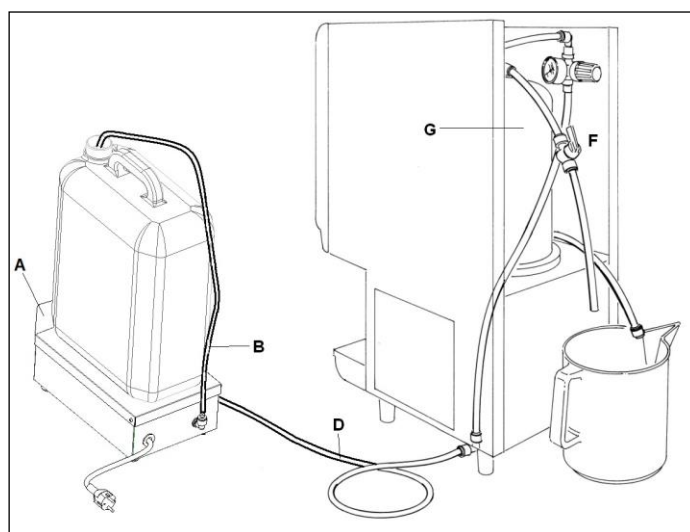

Fig. 7
- b) Rest the machine on a sturdy, flat surface making sure it is well ventilated by leaving a gap of 20 cm around it and do not install it near heat sources (fig.7); **we recommend you to maintain a room temperature between 24 and 32°C.**